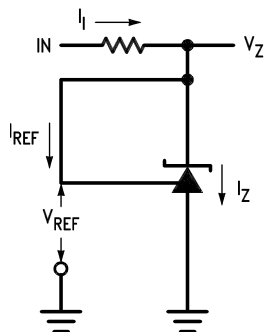

Figure 32. Test Circuit For  $V_Z = V_{REF}$
| $I_{Z(MIN)}$                        | Minimum Cathode Current for Regulation                                    | $V_Z = V_{REF}$ (see <a href="#">Figure 32</a> )  |                           | 55    | 80   | $\mu\text{A}$ |   |
| $r_Z$                               | Dynamic Output Impedance (2)                                   | $V_Z = V_{REF}$ , $I_Z = 0.1\text{ mA}$ to 15mAFrequency = 0 Hz (see <a href="#">Figure 32</a> )  |                           | 0.25  | 0.4  | $\Omega$      |   |
| $V_{REF}$                           | Reference Voltage   | $V_Z = V_{REF}$ , $I_Z = 10\text{ mA}$(See <a href="#">Figure 32</a> )   | $T_A = 25^\circ\text{C}$  | 1.234 | 1.24  | 1.246 | V             |
| $V_{DEV}$                           | Deviation of Reference Input Voltage Over Temperature (1)      | $V_Z = V_{REF}$ , $I_Z = 10\text{ mA}$ ,$T_A = \text{Full Range}$ (See <a href="#">Figure 32</a> )   |                           |       | 6     | 20    | mV            |
| $I_{Z(\text{MIN})}$                 | Minimum Cathode Current for Regulation                                    | $V_Z = V_{REF}$ (see <a href="#">Figure 32</a> )   |                           |       | 55    | 80    | $\mu\text{A}$ |
| $r_Z$                               | Dynamic Output Impedance (2)                                   | $V_Z = V_{REF}$ , $I_Z = 0.1\text{ mA}$ to 15 mAFrequency = 0 Hz (see <a href="#">Figure 32</a> )  |                           |       | 0.25  | 0.4   | $\Omega$      |